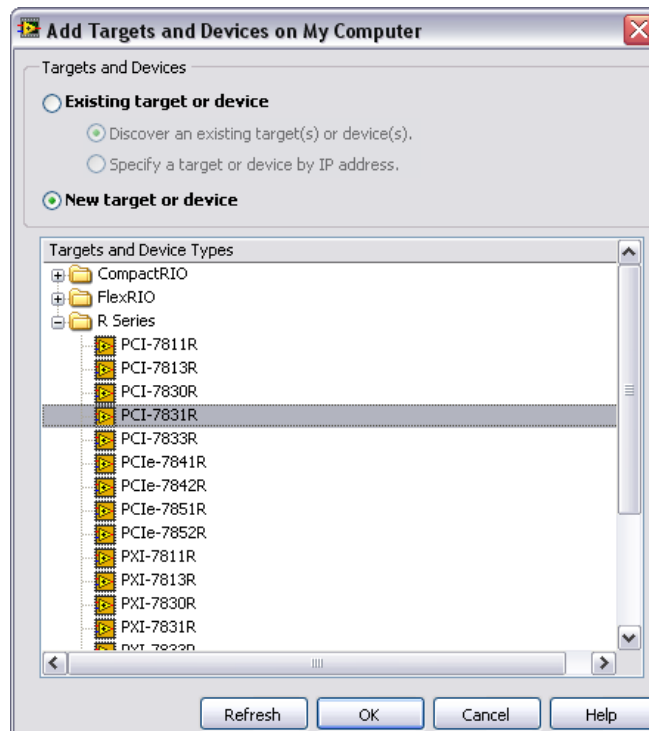

Figure 2-9. Add Targets and Devices Dialog
3. Referring to Figure 2-9, when would you select New target or device?